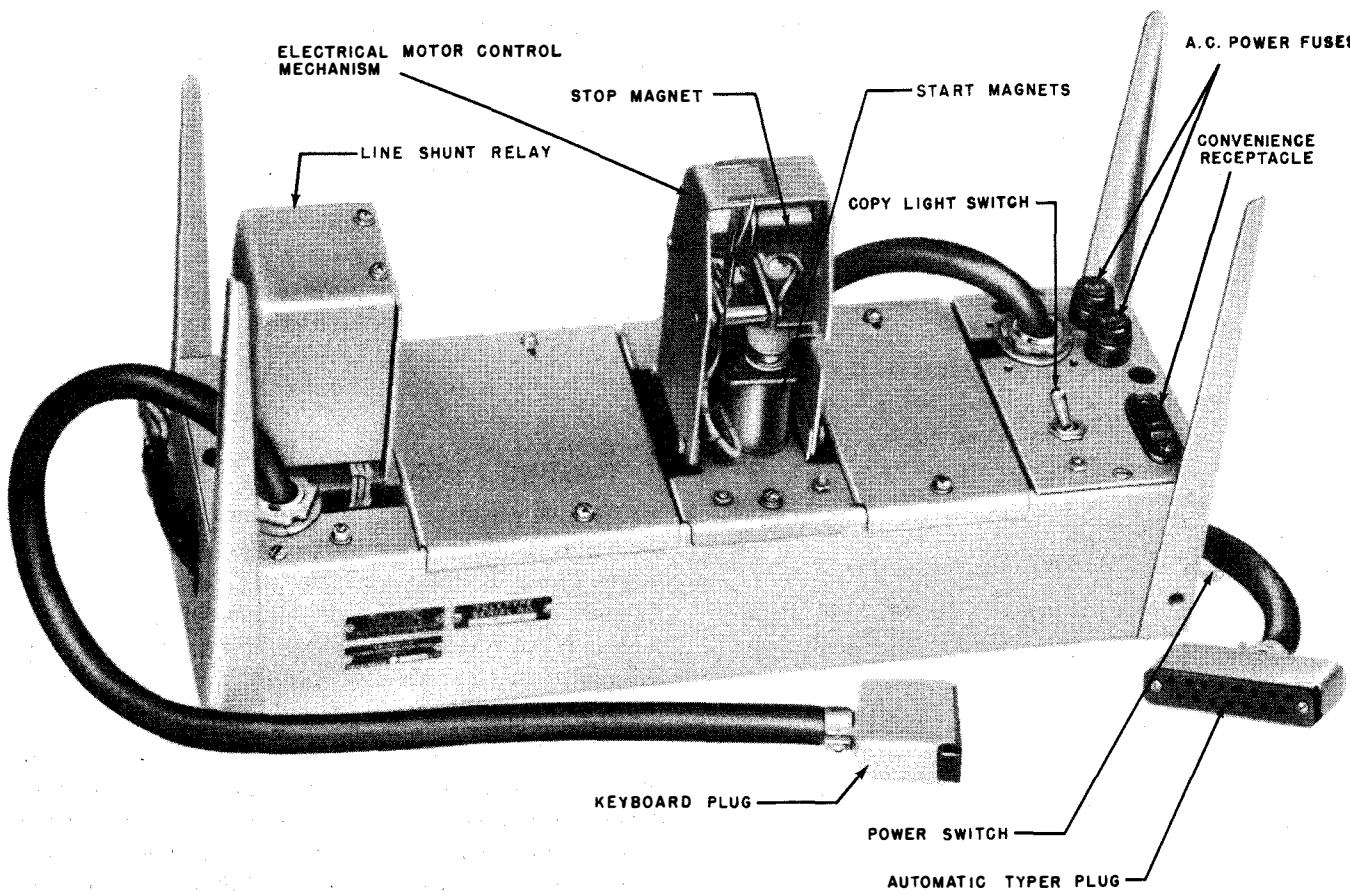

Figure 4-3. Power Distribution Panel SB-154/UG
Controls which are frequently used are external to the Cabinet while those infrequently used are located on the Power Distribution Panel (figure 4-3) within the Cabinet, and on the inside of the cabinet dome (figure 1-12). Make sure that the cables from the Power Distribution Panel are plugged into their respective receptacles on the Automatic Typer and Keyboard.
*b.* The **POWER SWITCH** (figure 4-3), when thrown to the upper position, applies power to the Teletypewriter and likewise to a Rectifier when used.